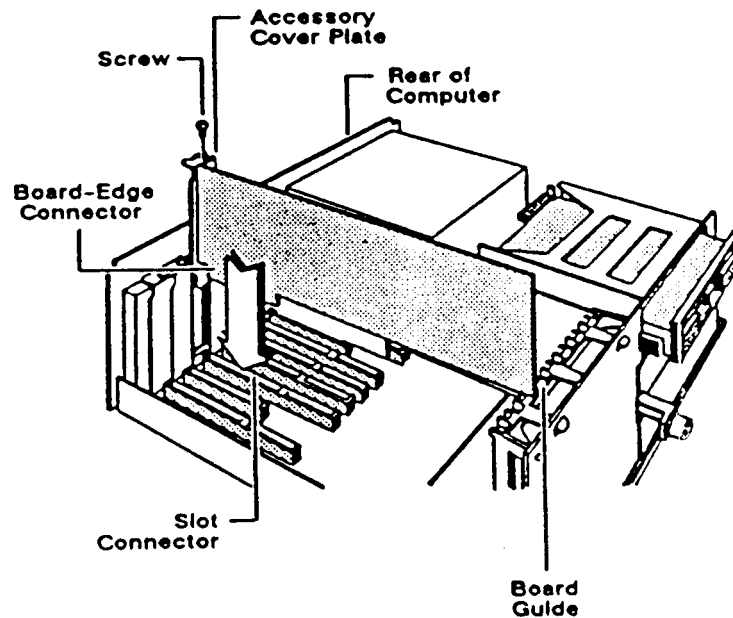

Figure 5-26 Inserting a PC board in the computer
6. Locate the correct slot for the board being replaced (Figure 5-26).
7. Handling each board only by the edges (do not touch board components or edge connectors), carefully align each board edge connector with its slot, then gently and firmly press downward to slide the edge connector into the slot connector (Figure 5-26). If the board is full length, be sure the end toward the front of the computer slides into the board guide.